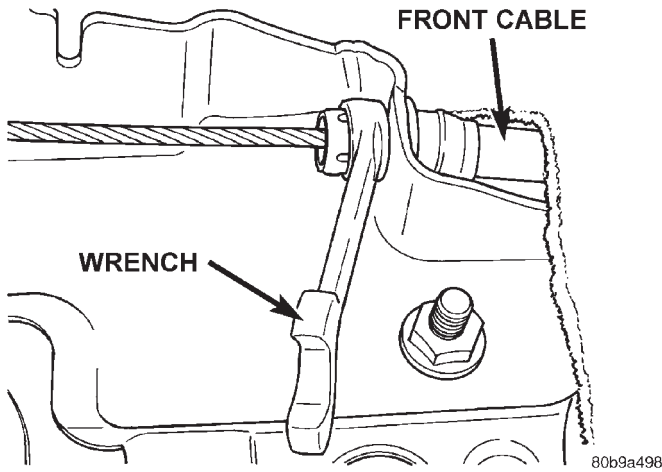

Fig. 45 Parking Brake Lever Bracket
- (5) Disconnect parking brake switch wiring connector.
- (6) Disengage front cable end from parking brake lever.
- (7) Compress the cable retainer with a 13 mm wrench (Fig. 45) and remove the cable from the parking brake lever bracket.